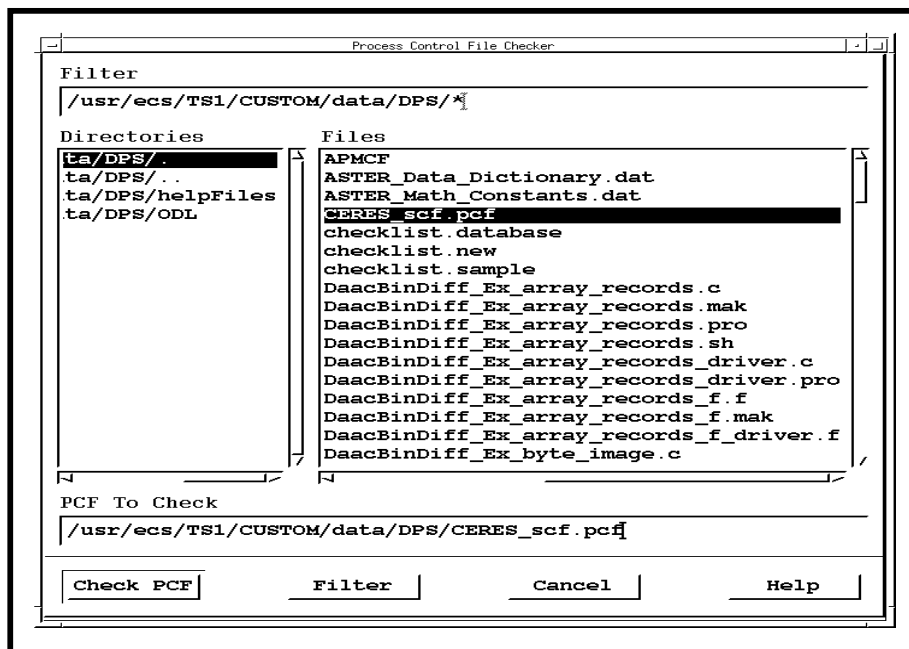

Figure 26.5.6-1. Process Control File Checker GUI
- 1 From the SSIT Manager, select **T**ools → **S**tandards Checkers → **P**rocess **C**ontrol File **C**hecker from the menu, see figure 26.5.6-1.